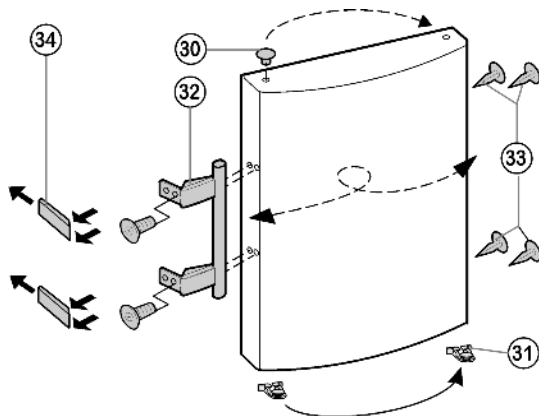

Fig. 8
- ▶ Disengage the spring clip *Fig. 8 (31)* from the upper door and transfer it to the new hinge side.
- ▶ Lift the stoppers *Fig. 8 (30)* out of the door bearing bushes and transfer them.
- ▶ Detach the door handles *Fig. 8 (32)*, stoppers *Fig. 8 (33)* and pressure plates *Fig. 8 (34)* and transfer to the opposite side.